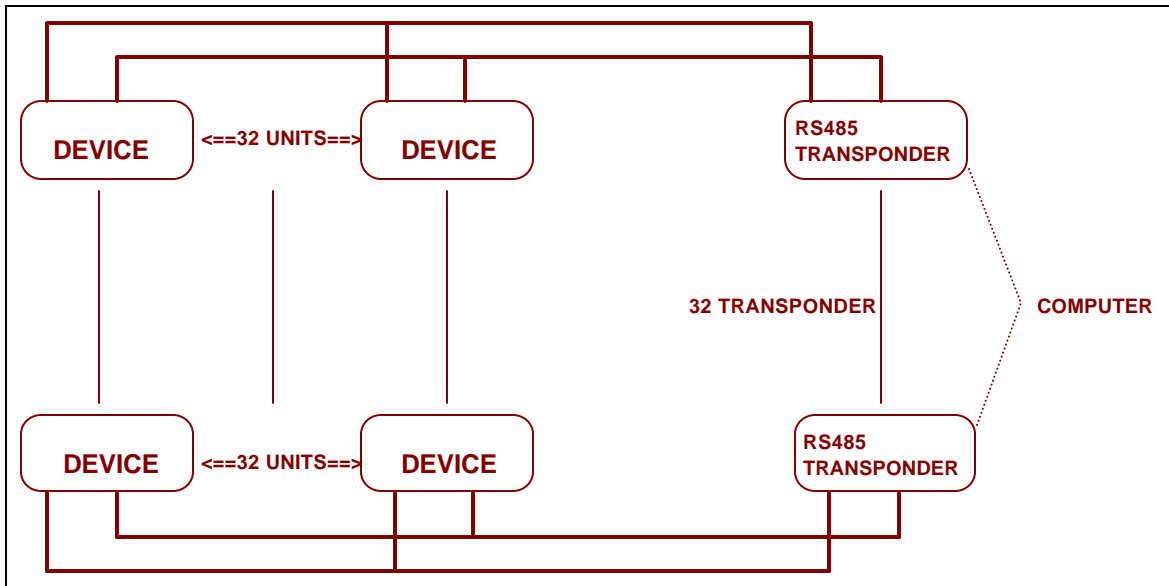

Figure 4.4 2-Wire RS485 Communication Installation Connection with Transponder
- In a two-wire connection, a maximum of 900 instruments can be included in the same network, (Figure 4.4).